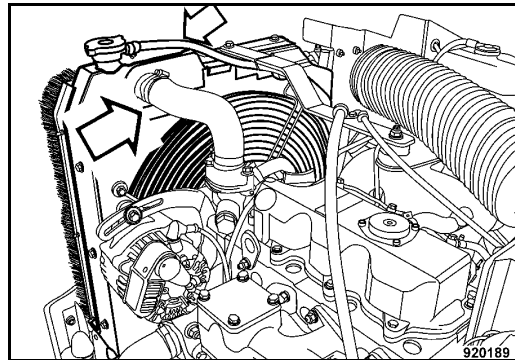

Fig. 150
- Check the condition and tight fit of all radiator hoses and hose clamps (Fig. 150).